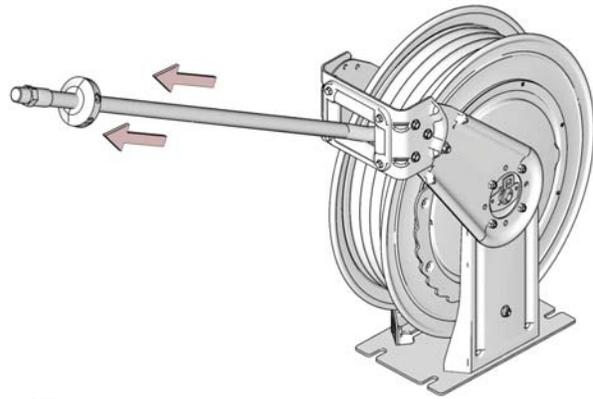

FIG. 17
7. Pull hose to test tension. Repeat 3 - 7 if necessary (FIG. 17).